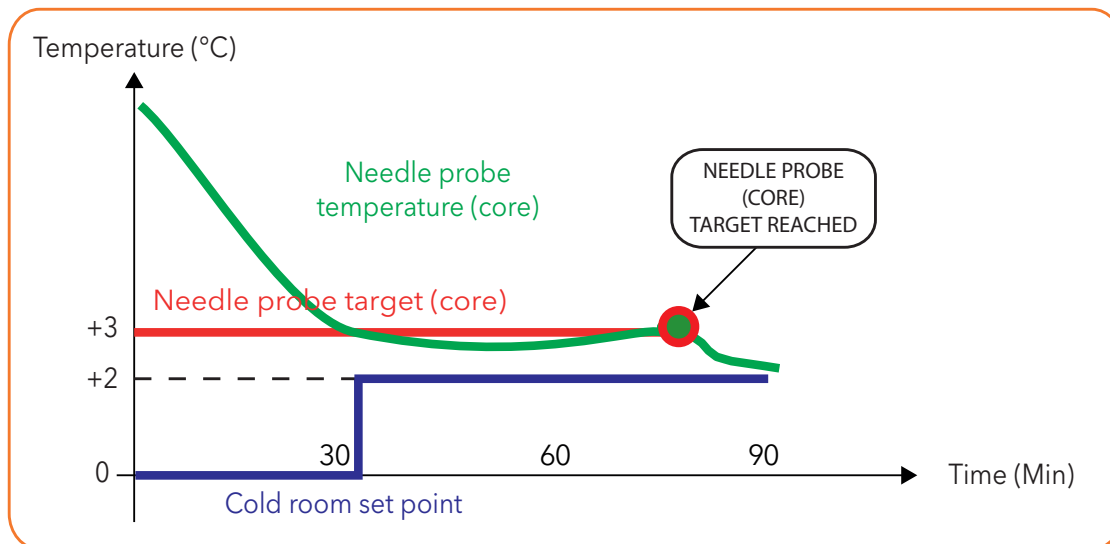

Fig. 10. Positive program with soft blast chill mode
- positive (cooling), with positive reference temperature (target temperature), and soft blast chill mode (**Fig. 10 on page 21**);
The numeric values shown in **Fig. 10 on page 21** are the default values.